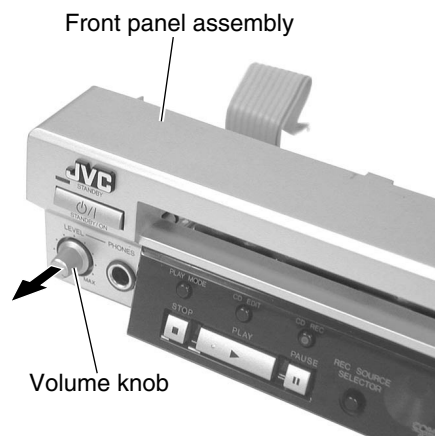

Fig.19
■ Removing the headphone board / power switch board (See Fig.19 to 21)